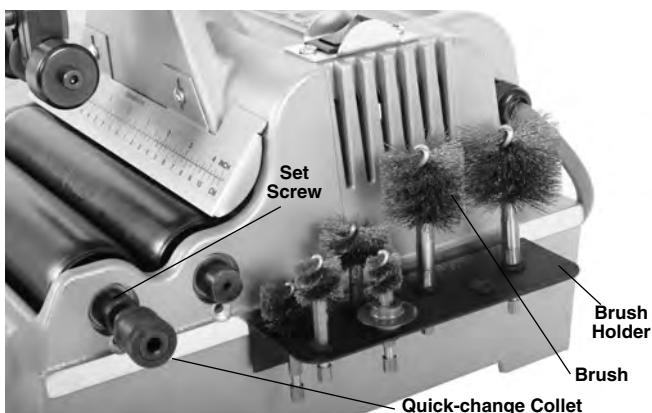

Figure 4 – Collet Installed
2. Attach the quick-change collet (*Figure 4*) to the front roller shaft extending from machine housing using the setscrew. Securely tighten with 1/4" hex key.